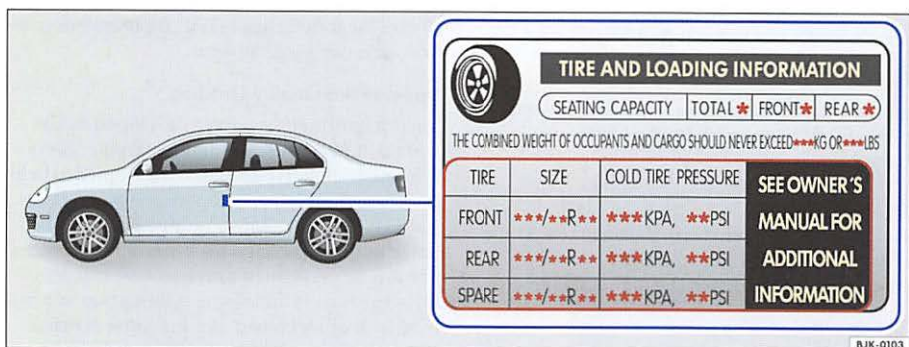

Fig. 13 Approximate location of the tire pressure label on the open edge of the driver's door and example of a tire pressure label
See the illustration $\Rightarrow$ page 54, **fig. 13** for the location of the label on the open edge of the driver's door (color of the actual label and exact location on the vehicle will vary slightly).
Remember, your safety and that of your passengers also depends on making sure that load limits are not exceeded. Vehicle load includes everybody and everything in and on the vehicle. These load limits are technically referred to as the vehicle's Gross Vehicle Weight Rating ("GVWR"). The Gross Axle Weight Rating ("GAWR") is the maximum load that can be applied at each of the vehicle's two axles. The Gross Vehicle Weight Rating and the Gross Axle Weight Rating are listed on the safety compliance sticker label on the driver's door latch pillar. The tire pressure label on your Volkswagen lists the maximum combined weight of all of the occupants and luggage or other cargo that the vehicle can carry. For the location of the tire pressure label ⇒page 54, fig. 13.
The tire pressure label on your Volkswagen lists the recommended cold tire inflation pressures for the new, original equipment tires that were on your vehicle at the time it was manufactured. For the location of the label ⇒page 54, fig. 13.
The tire pressure label on your Volkswagen also lists the maximum combined weight of all of the occupants and luggage or other cargo that the vehicle can carry. For the location of the label ⇒page 54, fig. 13.
1. Locate the statement "THE COMBINED WEIGHT OF OCCUPANTS AND CARGO SHOULD NEVER EXCEED XXX KG OR XXX LBS" from the sticker ⇒page 54, fig. 13.
3. Subtract the combined weight of the driver and passengers "XXX" kilograms or "XXX" pounds ⇒page 54, fig. 13.